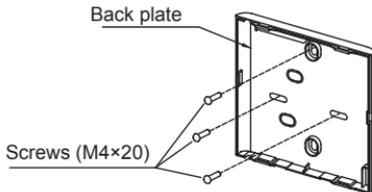

Fig 3-6
- For surface mounting, fasten the back plate on the wall with the 3 screws (M4x20) and plugs. (Fig.3-6)